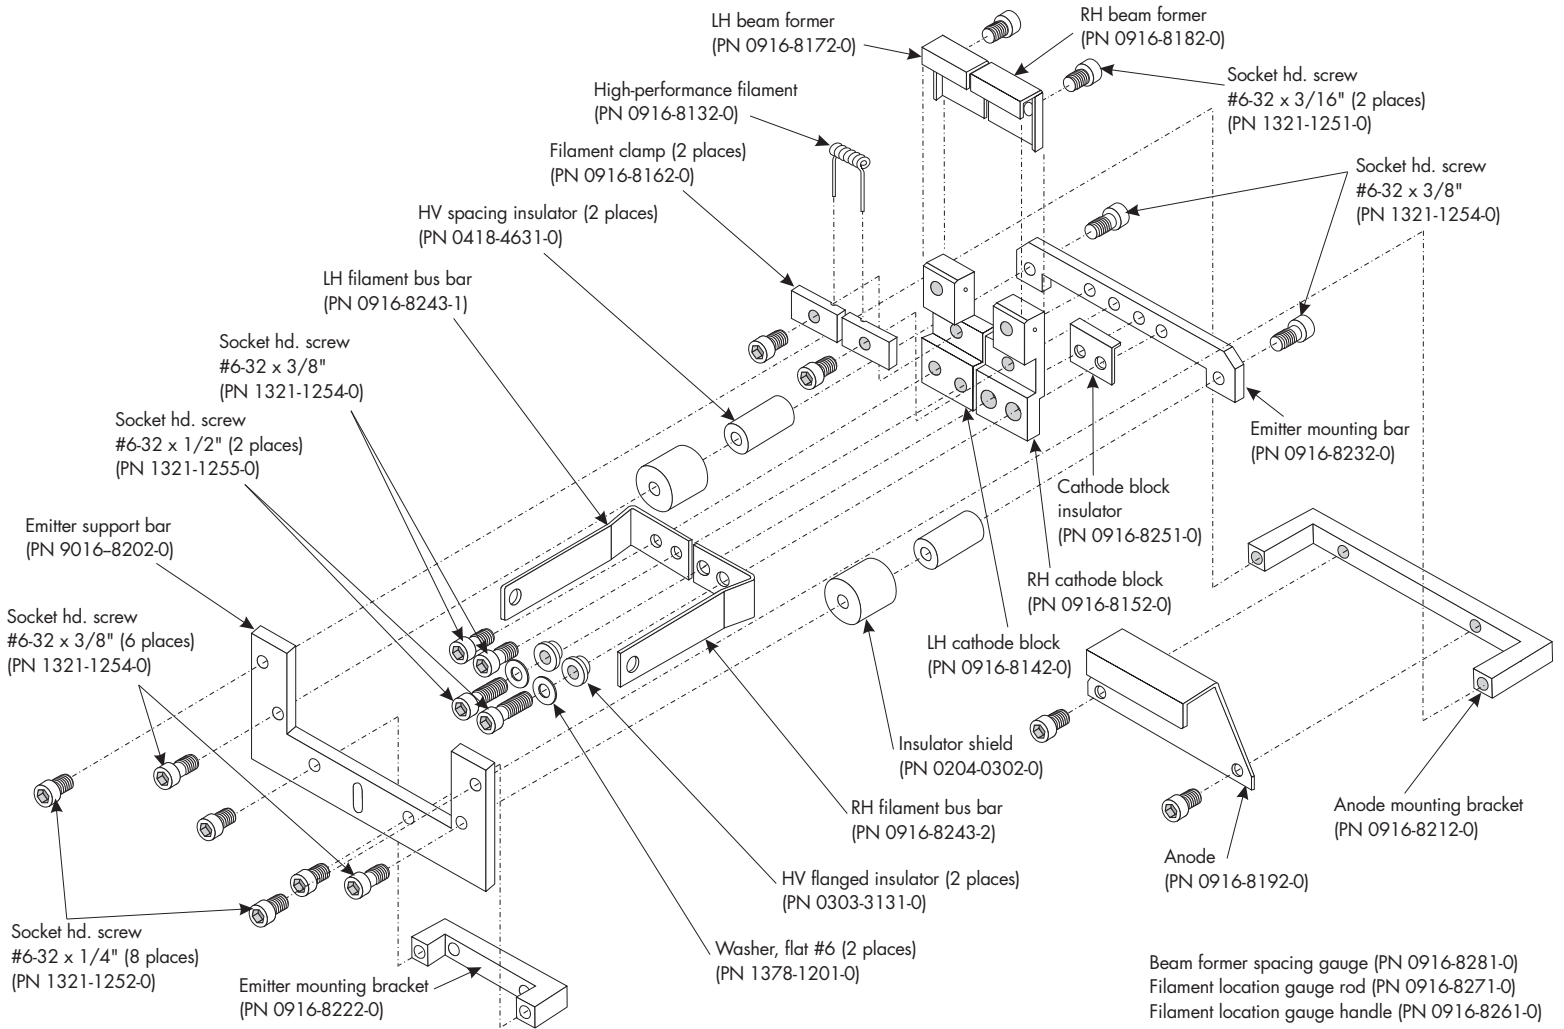

Figure 4-3. Exploded view of high-performance emitter
2. Examine all screws as you disassemble the emitter and replace any that show signs of thread damage or distortion. Damaged screws are likely to become frozen in place during subsequent source operation, resulting in breakage or thread stripping the next time you attempt to remove them. Coat all screws that you do reuse with molybdenum disulfide (ROCOL or equivalent). When replacing screws, use only stainless steel 6-32 socket-head screws of the correct lengths (see Figure 4-3). All screws must be vented so as to create a path through which gases trapped between the threads can be pumped out. To minimize virtual leaks, it is important that the underside of the screw's head as well as its threads be vented. For best results, use the screws that are available from Temescal, as they come machine vented in the correct manner.